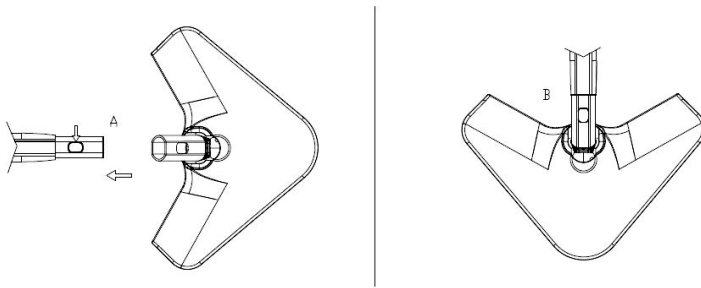

FIGURE 2
2. Press down on orange lock/release button. While continuing to hold button down, slide Mop Head neck onto Extension Wand FIGURE 2-A). Press on firmly until button snaps through hole (FIGURE 2-B).